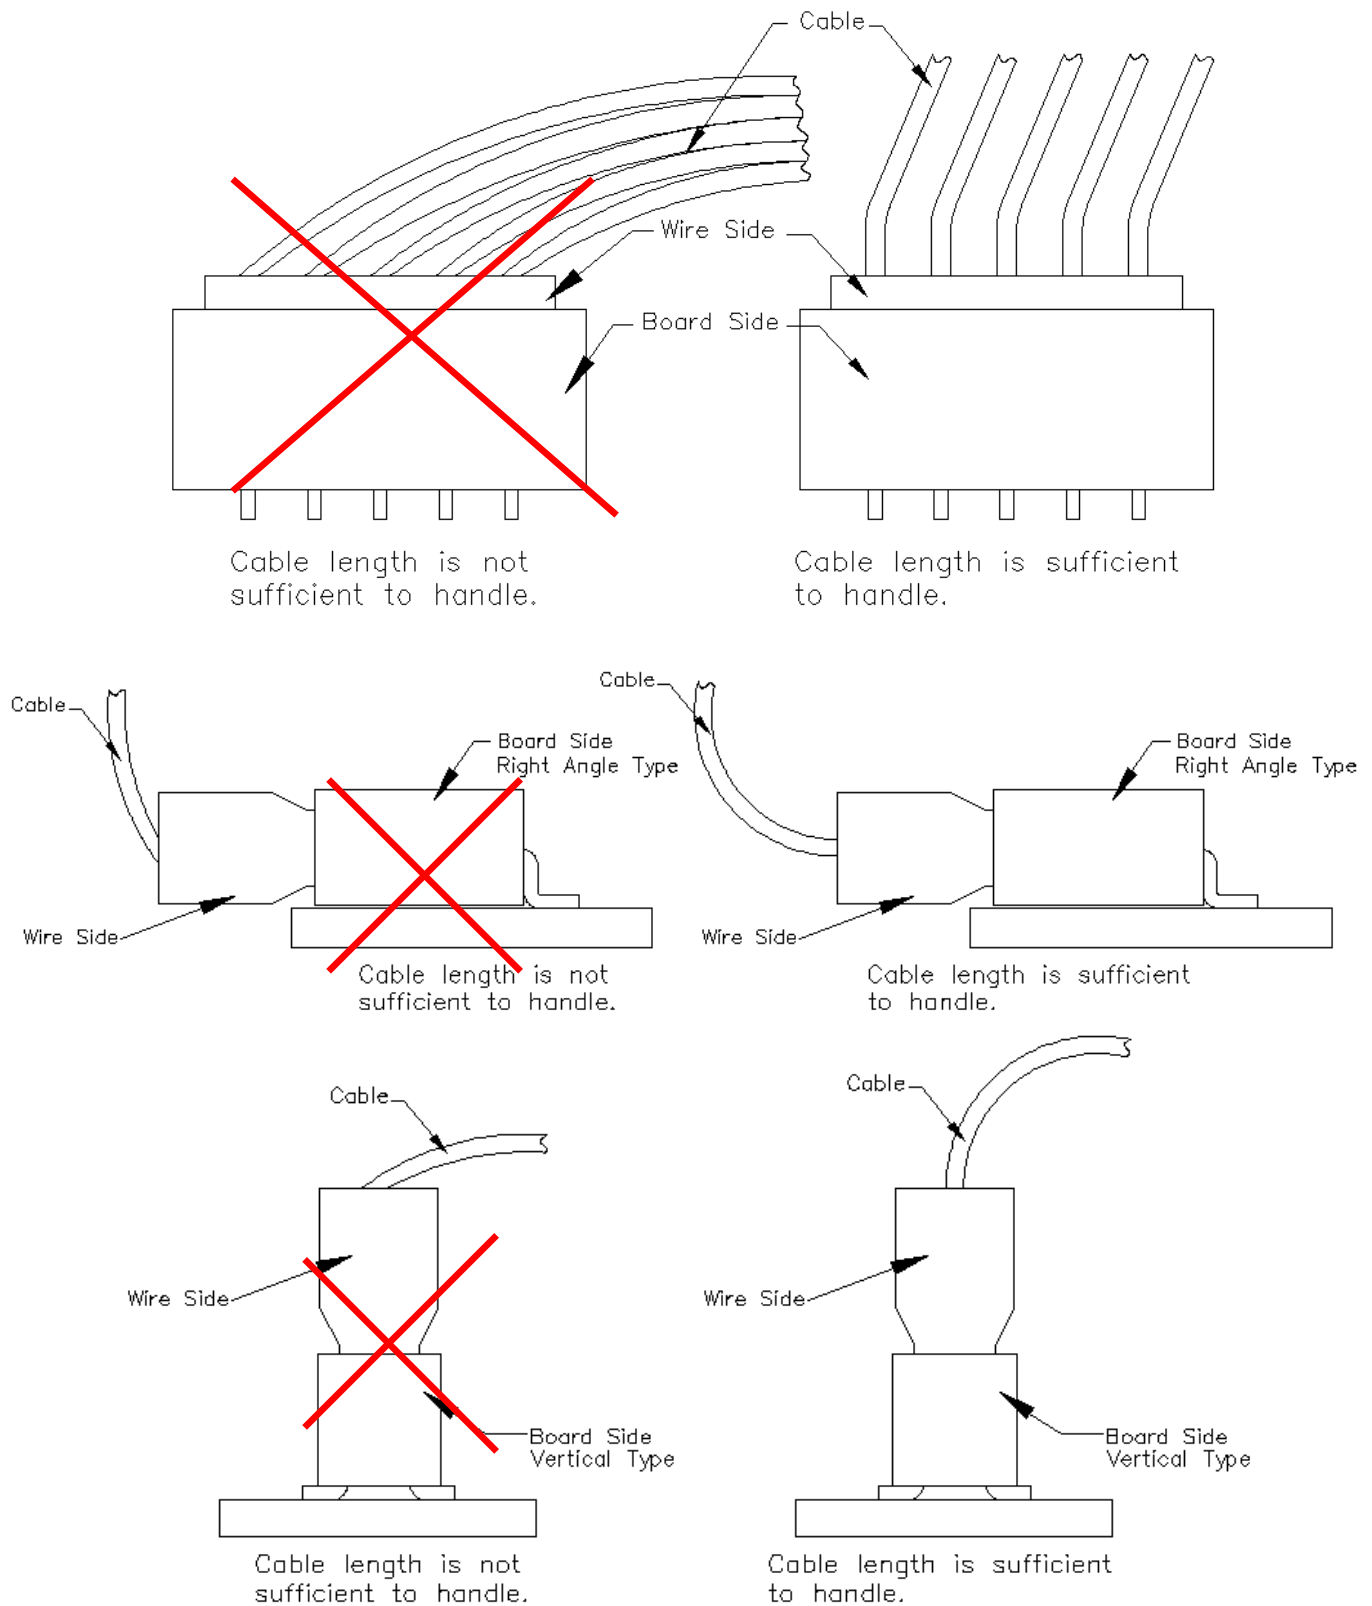

Figure 4.
- The cable assembly should not have a constant stress or pulling force applied on it when it is in the mated condition. Therefore, when designing the wire positioning, please ensure that there is enough length of wire to avoid stress on the connector. (see figure 4).